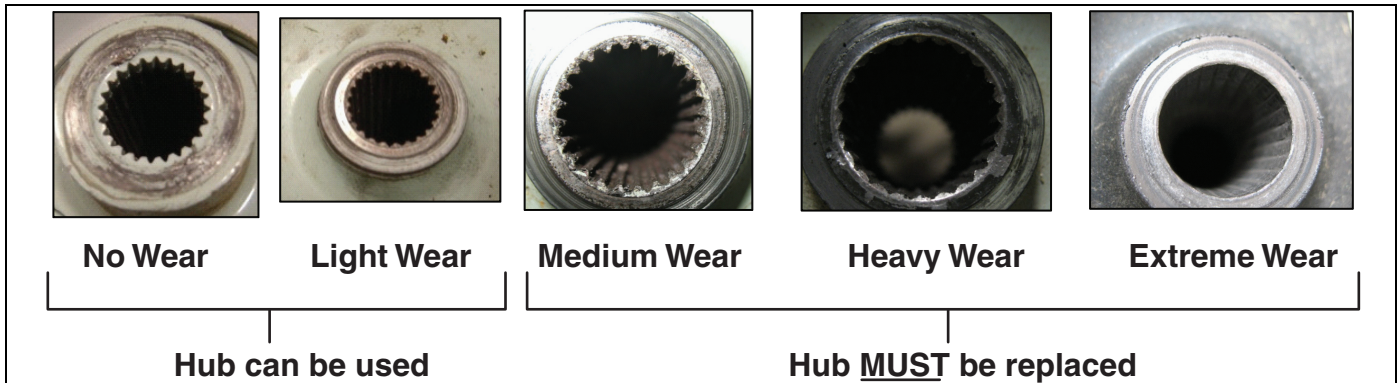

Figure 9B
4. Remove castle nut (B), washer (C) and hub (D).
5. Inspect the both ends of hub splines for wear or damage. Refer to **Figure 9B** for examples of hub wear.
7. Slide hubs (D) onto axle shafts.
8. Assemble washers (C) and castle nuts (B) to axle shafts.
10. Install new cotter pin (A).